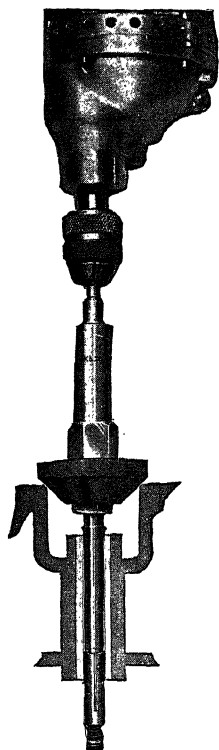

Fig. 25. Refacing Valve Seats in Cylinder Block or Cylinder Head (Black and Decker Practice)
**Refacing Valve Seats.** Fig. 25 illustrates the use of a special grinding wheel or stone in connection with a high speed  $\frac{1}{4}$ -inch